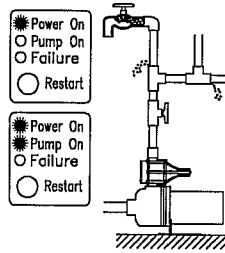

Figure 15
POWER ON light on, FAILURE light off and PUMP ON light short cycles on and off. Tap closed, pump cycles on and off (Fig.15).
1. The condition may be similar to condition 1 (Fig.15) above but leak flow rate is greater than 0.21 gpm. In this case the leak obviously simulates an open tap condition. Follow instructions for condition 1, figure 15 above.